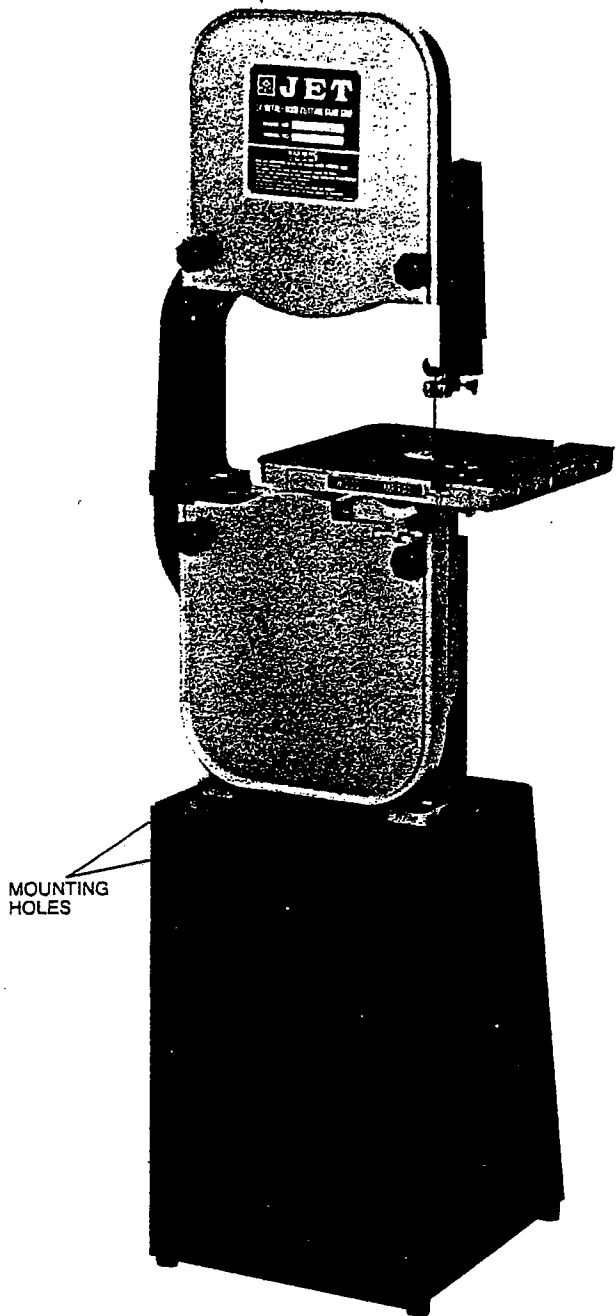

FIGURE 8
2. Secure bandsaw to stand with four long bolts, eight washers, and four hex nuts (Figure 8).